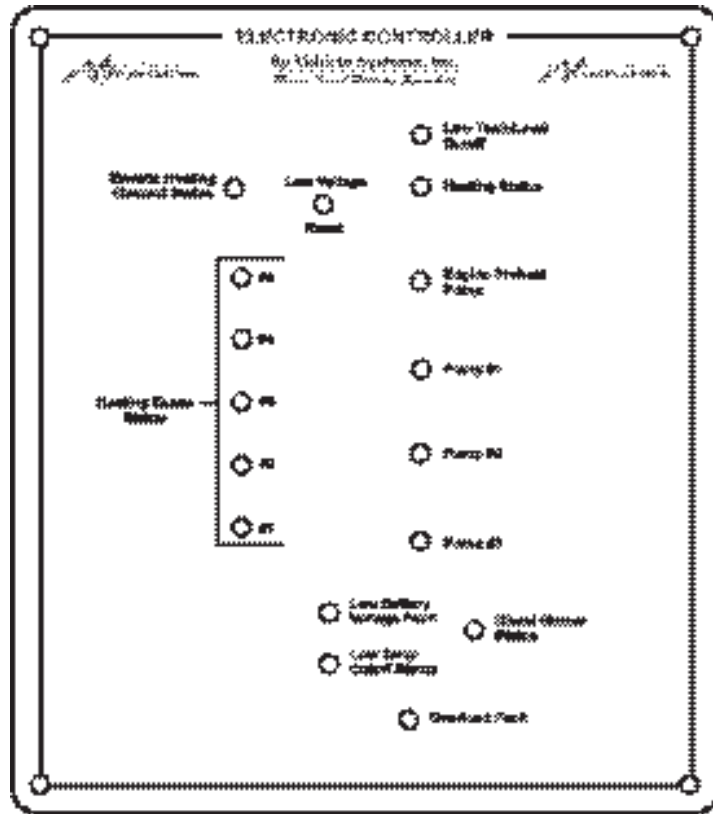

Figure 5
If the Hydro-Hot's Diesel switch "Indicator Light" does not illuminate, and the Diesel-Burner is not functioning, locate the Electronic Controller (Figure 5) and check the following:
- A. Check the Hydro-Hot's Electronic Controller for any RED lights indicating a fault condition. Reference Figure 5 and the Electronic Controller Troubleshooting section to identify these fault conditions.